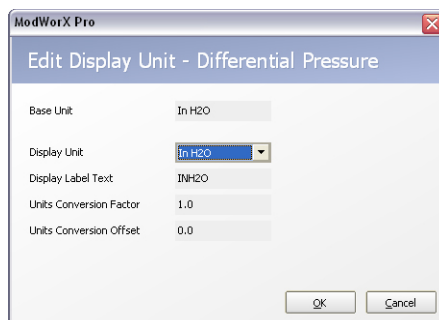

Figure 6.19
- a. Click **Edit**. The Edit Display Unit dialog will appear (Figure 6.19).